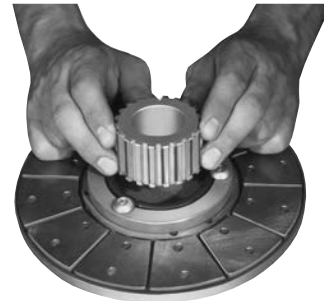

Figure 5
2. Push the splined hub, with the retainer ring groove down, through the autogap spring and splined armature adapter (Figure 5). (Considerable force is required to start the hub through the armature.)